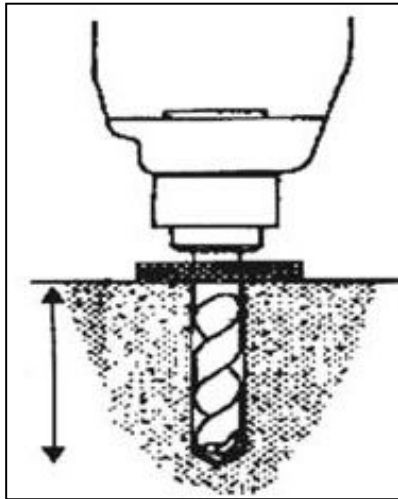

Fig. 25
- Impact drill hammer of $\Phi 18$ shall be drilled to the deep hole of 120mm from ground through base hole of platform with electric hammer pinch (figure 25) and entrance to hole shall be cleaned.